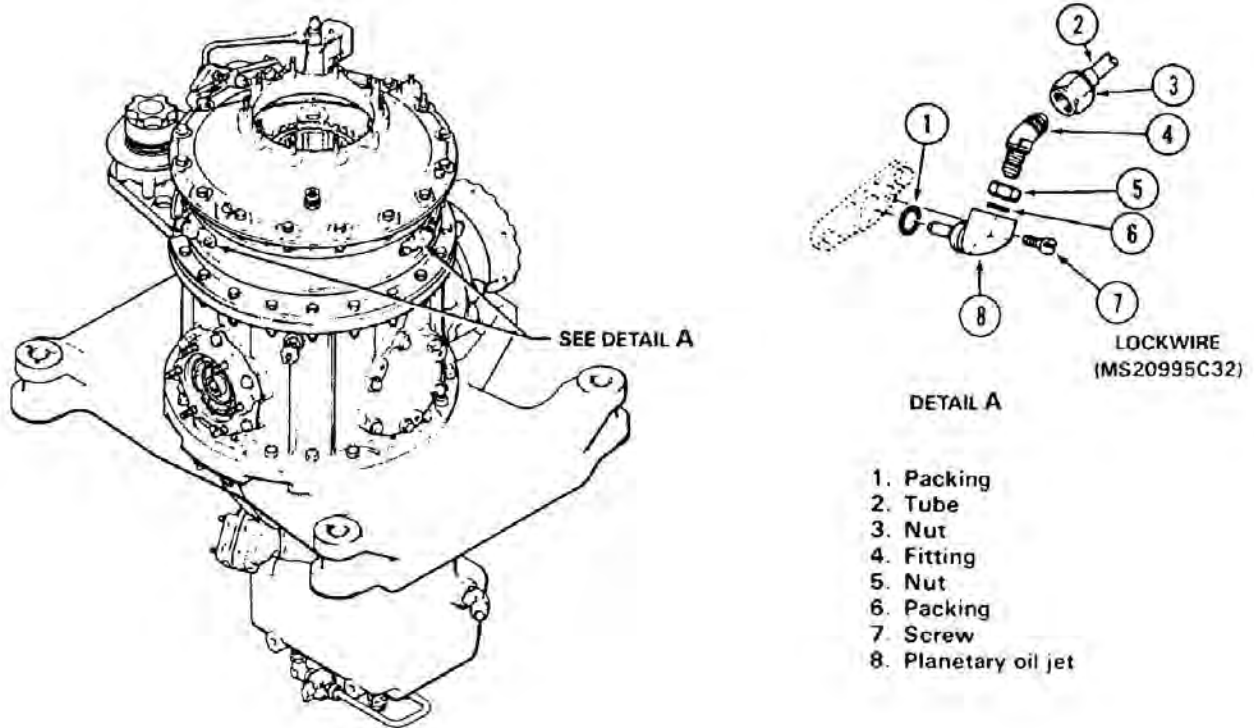

Figure 63-26. Planetary Oil Jet
Two oil jets (8, Figure 63-26) are installed in the planetary gear case of transmission to provide positive lubrication to planetary gearing.
The jet on forward side of transmission is shown in Figure 63-26. Maintenance procedures for jet on left side of transmission are similar.
63.5.10.5.1 Coat new packing (1, Figure 63-26) with transmission oil (Chapter 12). Install packing on jet (8).